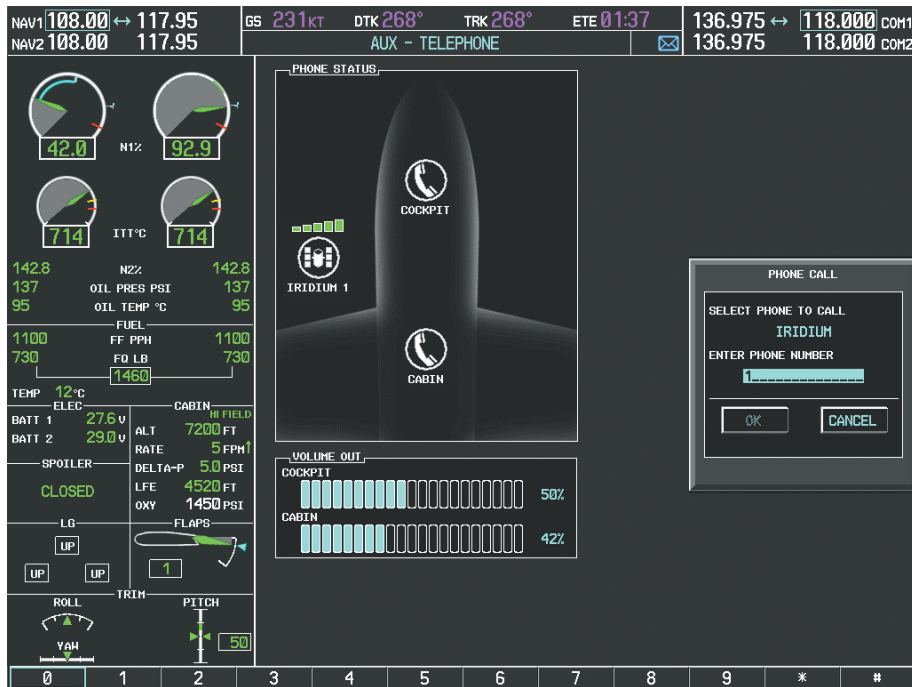

Figure 8-84 Enter Phone Number
- 4) Press the **ENT** Key. The cursor has now moved to the phone number entry field as shown in Figure 8-84.